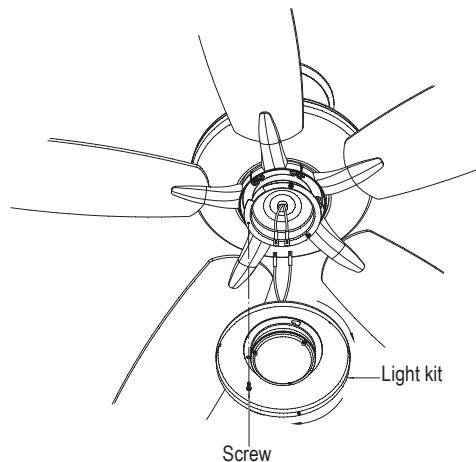

Fig. 16
**Step 1.** Loosen the three mounting screws on the inside of the LED light kit. (Fig. 16)
**Step 2.** While holding the LED light kit under the fan motor, make the wire connections. (Fig. 16)
**Step 3.** Tuck the connections neatly into the light plate. Place the key holes on the LED light kit over the 2 screws previously loosened from the light plate, turn the LED light kit until it locks in place at the narrow section of the key holes. Secure by tightening all three screws. (Fig.16)
Warm weather - Forward (counter clockwise) A downward airflow creates a cooling effect as shown in Fig. 16. This allows you to set your air conditioner on a warmer setting without affecting your comfort.